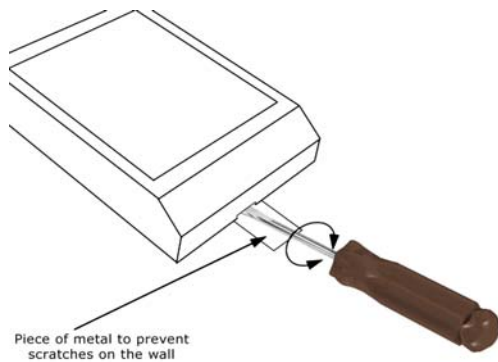

FIGURE 1: Snapping Open The Cover
2. Snap open the reader's top cover by inserting a wide screwdriver blade into the slot at the bottom edge of the cover, then twisting the blade gently (see Figure 1).